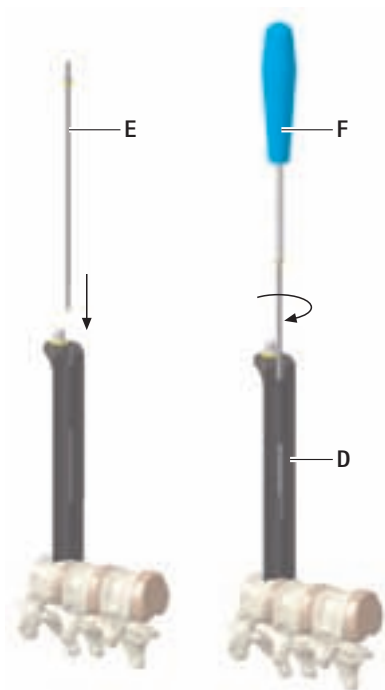

Fig. 1
- ▶ Insert and tighten fixation screw **E** in valve **D**, see Fig. 1.